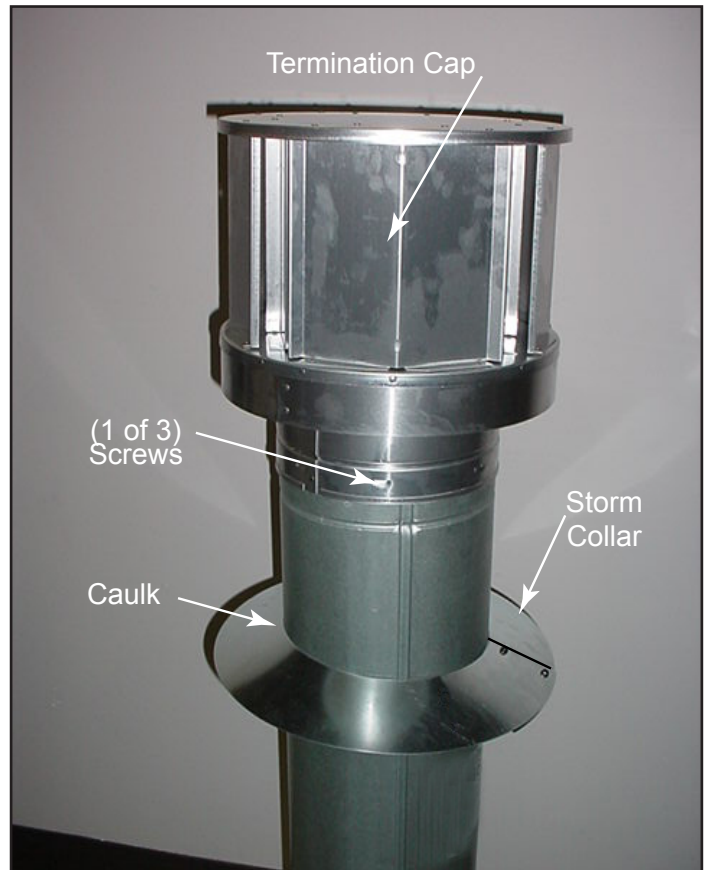

Figure 7.15
- Caulk the perimeter of the flashing where it contacts the roof surface. See Figure 7.15.
- Caulk around the top of the storm collar. See Figure 7.15.
- Secure the cap by driving three self-tapping screws (supplied) through the pilot holes in the outer collar of the cap into the outer flue of the pipe (see Figure 7.15).